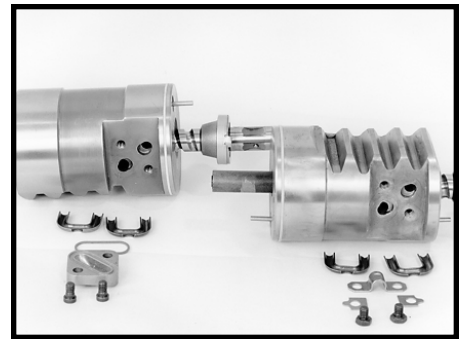

Figure 74
**NOTE: The ball return guide is closely fitted with the rack piston, and you may have to remove the halves by carefully inserting a screwdriver between the rack and the guide. See composite picture of both rack piston assembly types in FIGURE 74.**